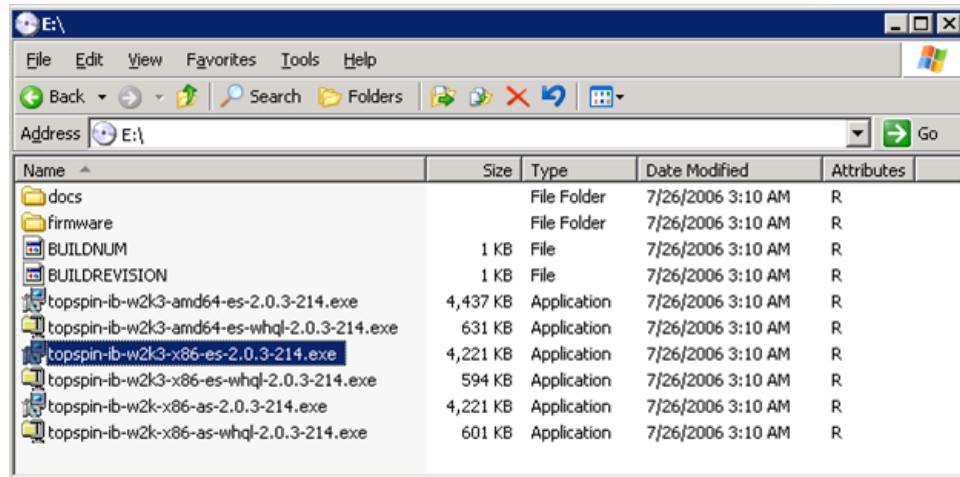

Figure 5-3 Verify InfiniBand Host driver CD contents
2. Insert the InfiniBand host driver CD or download the Windows Server 2003 drivers on the blade and verify the CD contents as shown in Figure 5-3.
3. Run the topspin-ib-W2k3-x86-es-2.0.3-214.exe file as shown in Figure 5-3.